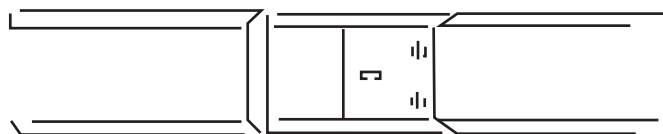

Figure 6.
- **Note:** The clip acts as an attachment mechanism between two pieces of straight run molding (Figure 6). (i.e. when you install clips only half of the clip will be covered by molding. The other half of the clip will serve as the beginning attachment for the next piece of molding clips.)